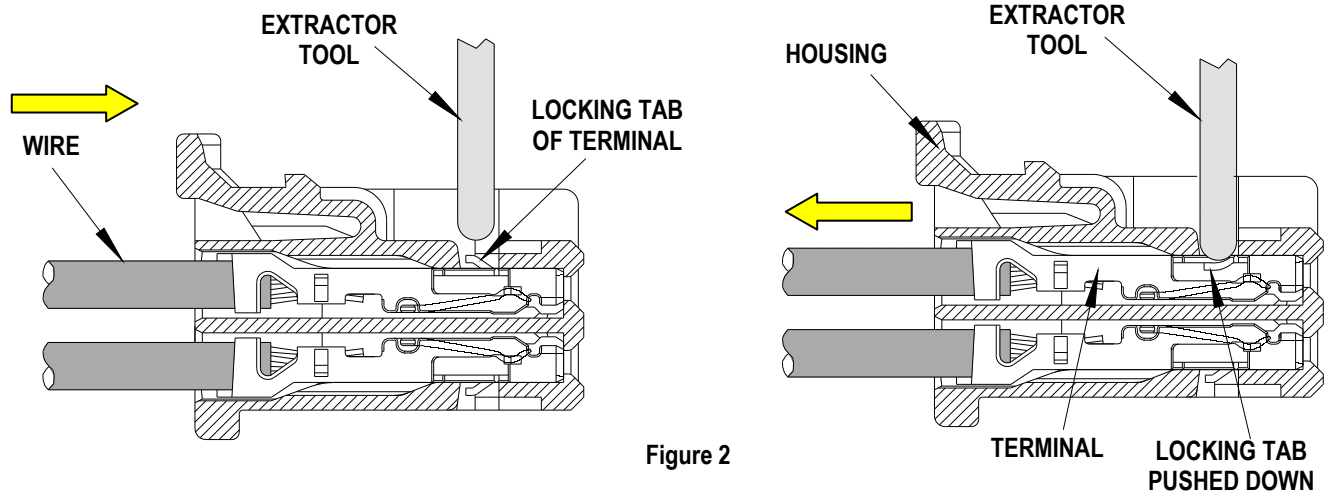

Figure 2
2. Holding the wire and the tool together, pull the wire back through the connector slot in the arrow direction as shown in Figure 2.